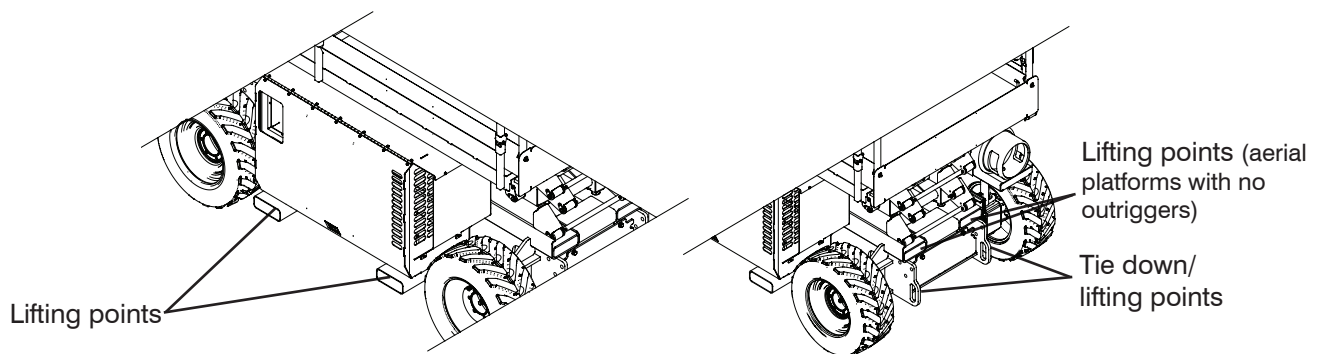

Figure 3-9. Tie Downs/Lifting Points
- The lifting/rigging must be attached to all twelve lifting points as illustrated in Figure 3-9.
**When transporting, the aerial platform must be secured to the truck or trailer deck. Tie downs are available as illustrated in Figure 3-9.**